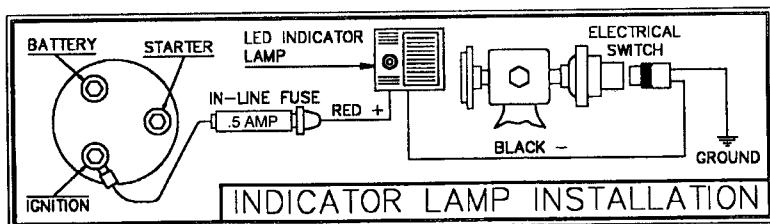

FIGURE 4
Your Fireboy System is supplied with one (1) indicator lamp and escutcheon plate. U.S. Coast Guard regulations require an indicator lamp and an escutcheon plate at each helm position from which the craft may be operated. Additional indicator lamps and escutcheon plates are available factory direct shown elsewhere in this manual. Select an appropriate location for the indicator lamp and escutcheon plate on or near the instrument panel at the helm in full view of the operator. Drill a 5/16" hole. Now remove the backing paper on the escutcheon panel, insert the two wires through the hole and firmly press in place. Your indicator lamp may now be wired according to the instructions as shown in Figure 4.
If after reviewing the wiring instructions below, you have any doubts about your ability to safely install this device, don't take chances...consult a qualified marine electrician. In addition, ignition systems and electrical systems vary from boat to boat, and the directions, which follow, may not apply to your boat. Simply put, the Fireboy indicator lamp is wired in series with the ignition switch, fuse, Fireboy electrical pressure switch and common ground. (see Figure 4). Assemble the supplies you will need that are not included with your Fireboy System. The necessary length of insulated 16 gauge (minimum) stranded wire; a one-half (.5) ampere in-line fuse and fuse holder or circuit breaker. Properly sized insulated crimp-on wire connectors. Connect one lead of the fuse to the "ignition" position of the starter switch. Next, connect other lead of the fuse to the red plus wire of the LED indicator lamp. The black lead of the indicator lamp is now connected to one of the pigtail leads on the Fireboy System (as shown in Figure 4). NOTE: THE LED WILL NOT WORK IF YOU REVERSE THE BLACK AND RED WIRES. The remaining lead from the Fireboy System electrical switch is connected to ground. We recommend the negative block at the instrument panel for this ground connection. Your lamp installation is now complete.